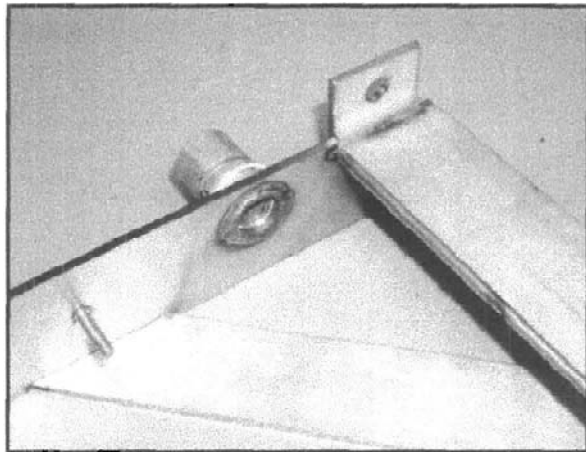

Figure 5 Grounding Stud
3. A grounding stud is supplied on the inside of the installation base. See Figure 5.